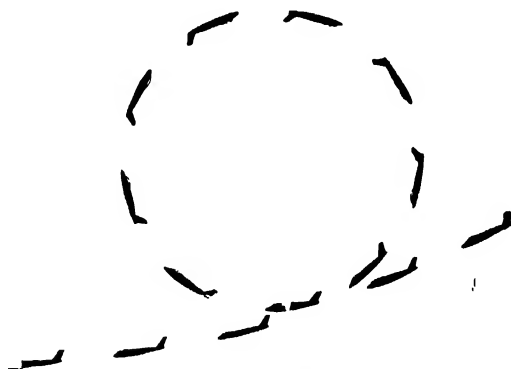

FIG. 1 THE LOOP
1. **THE LOOP.** This is probably the oldest and most popular aerobatic, in which the pilot acquires speed by diving with the throttle open. He pulls back the control column or 'stick', so that the aircraft climbs (*see FLYING*). The stick is held in position until the machine is upside down. The throttle is then closed, allowing the machine to drop and complete a circle (Fig. 1). A variation of the loop is a rocket loop, in which a higher initial speed is required and the stick is brought back rather more quickly. When the aircraft is in a vertical climbing position, point-